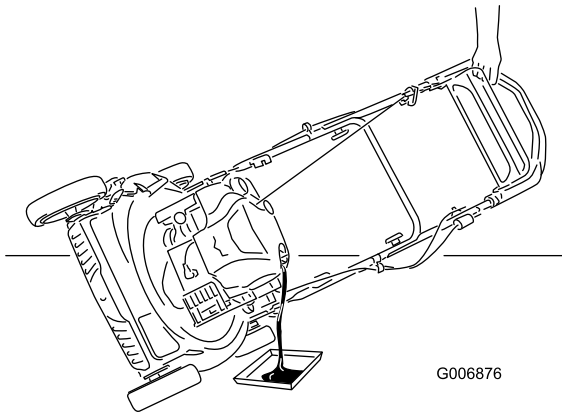

Figure 30
3. Tip the mower onto its side with the air filter up to drain the used oil out through the oil fill tube (Figure 30).